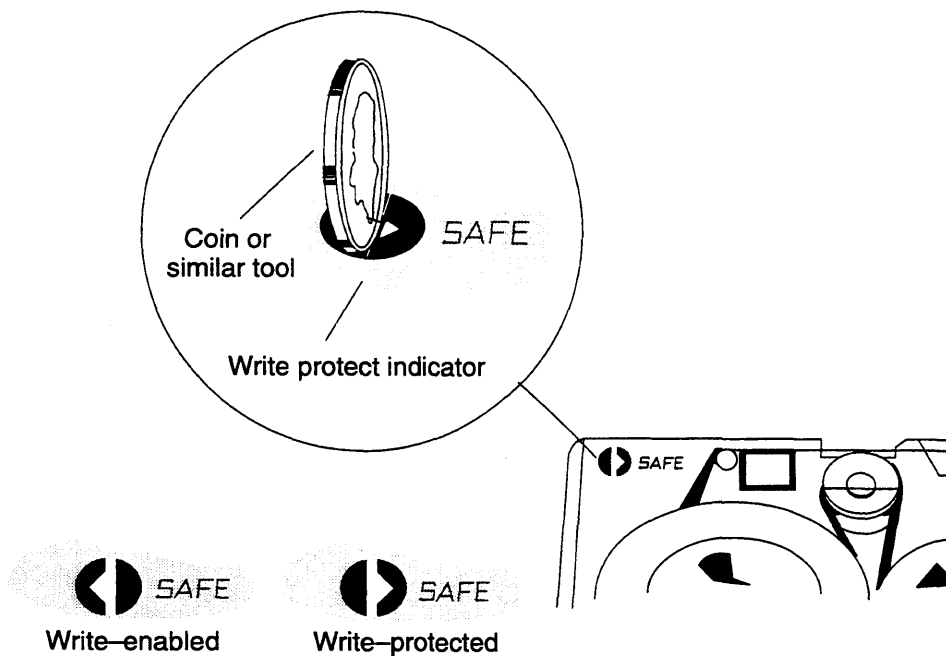

Figure 5 Write-Protecting 1/4-inch Cartridge Tape
Your cartridge tape has a write-protect indicator. When you rotate the indicator clockwise so that it points to the word SAFE (see Figure 5), the system can read data from the cartridge tape, but cannot write data or alter data on the cartridge tape.
3. Rotate the protect switch on the tape cartridge to the position you want. See Figure 5.